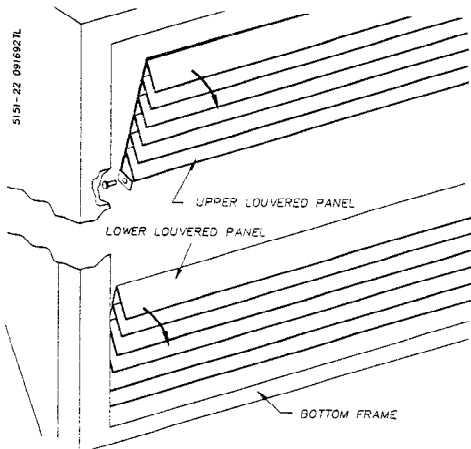

Figure 26
2. To remove louvers, carefully place one hand behind and one in front of upper louvered panel near one corner and pull lower section outward from behind until corner is free from retainers (see **Figure 26**). Do the same for the remaining corner and swing out until sides are free from retainers, then remove. Repeat steps for lower louver.